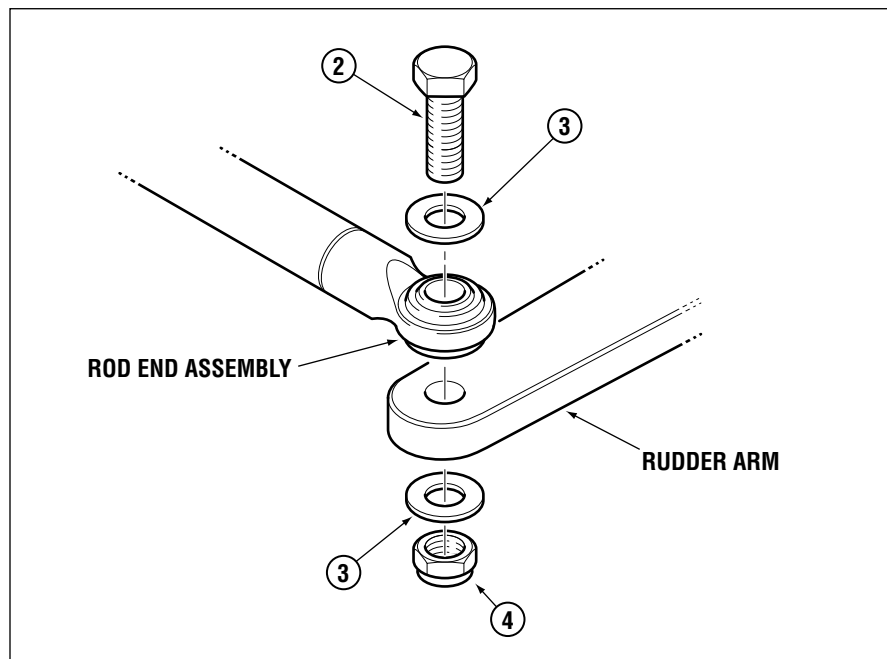

Figure 9. Attaching Rod End Assembly to Rudder Arm.
- 3 Assemble 1/2" x 2-1/4" bolt (item 2) and washers (items 3) into rod end assembly and rudder arm, as shown in Figure 9.
- 4 Torque nuts (item 4, Figure 9) to 43 ft-lb (58.3Nm).